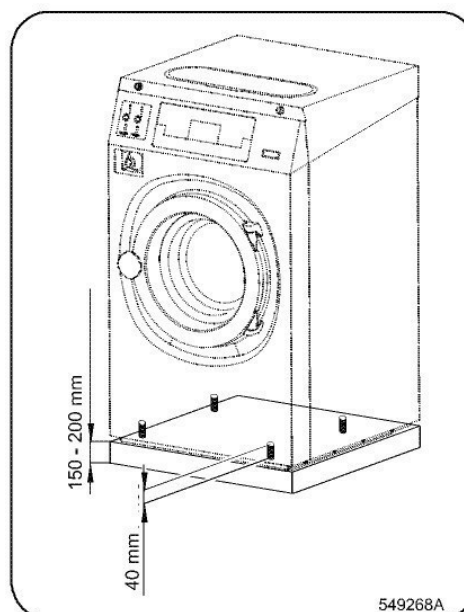

Figure 12 – Rigid-mount machines
- This method comes into consideration in case that the existing floor is thinner than 120mm / 4.72" or in case that the machine should be positioned above the existing floor level. The height of the elevated pad could be 150-200 mm / 5.9-7.87", see figure 12.